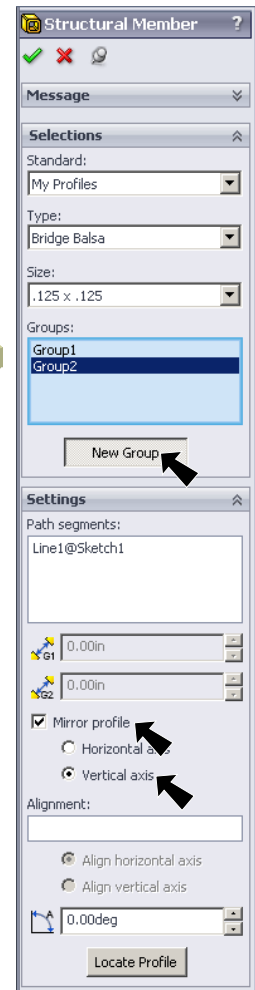
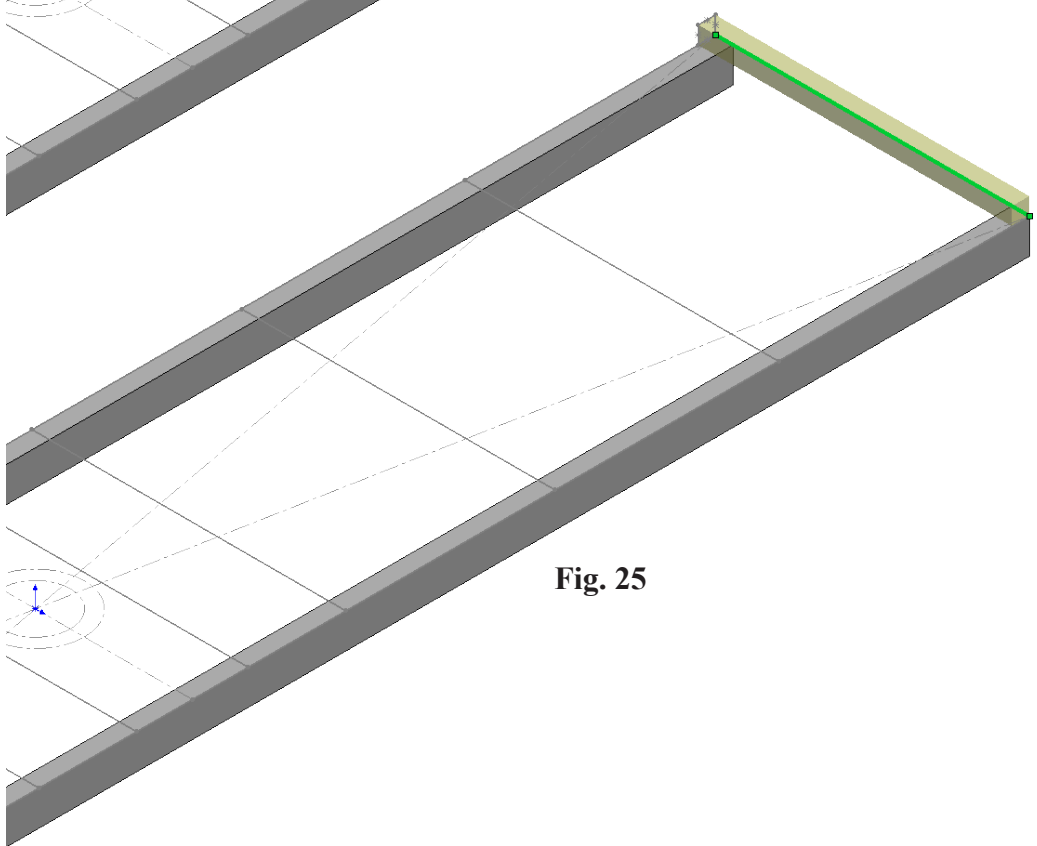

Fig. 23
Fig. 25
Step 3. Click **New Group (2)** button, **Fig. 23**
Step 4. Check **Mirror profile** and select **Vertical axis**, **Fig. 23** and **Fig. 25**.